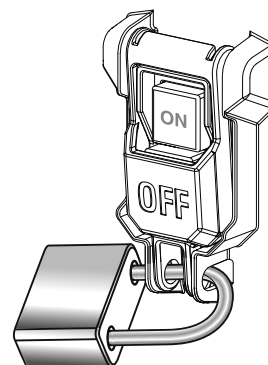

Fig. 43
- NOTE:** To prevent unauthorized use, install a padlock (not included) through the holes in the switch and cover as shown in figure 43.